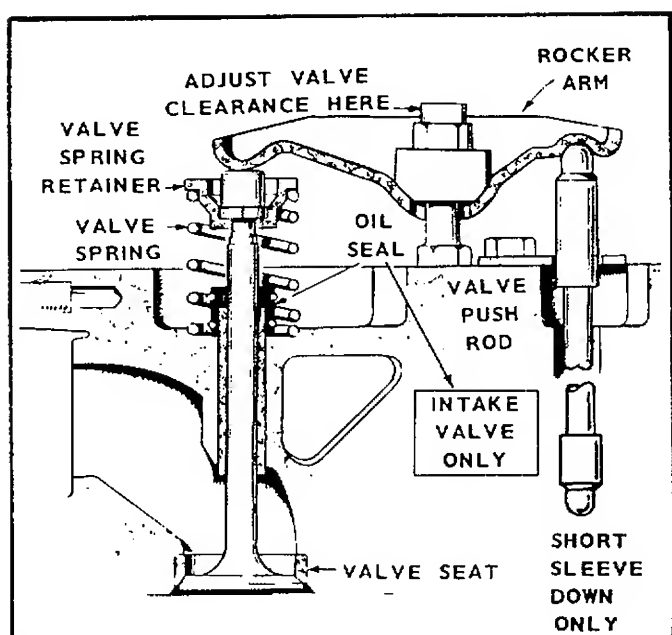

FIGURE 18. VALVE MECHANISM
**Speed Adjustment:** To change the governor speed, change the spring tension by turning the governor spring nut (Figure 18). Turn the nut clockwise (more spring tension) to increase RPM and counterclockwise to reduce governed speed. Hold a tachometer against flywheel cap screw or use frequency meter.
**Sensitivity Adjustment:** To adjust governor sensitivity (no-load to full-load speed droop), turn the sensitivity adjusting ratchet (Figure 18). Counterclockwise gives more sensitivity (less speed drop when full load is applied), clockwise gives less sensitivity (more speed drop). If the governor is too sensitive, a rapid hunting condition occurs (alternate increasing and decreasing speed). Adjust for maximum sensitivity without hunting. After sensitivity adjustment, the speed will require readjustment. After adjusting the governor, secure lock nut.
3. To change the setting of valve clearance, adjust the locknut which secures the rocker arm to the cylinder head (see Fig. 18). Loosen the locknut to increase clearance and tighten it to reduce clearance.